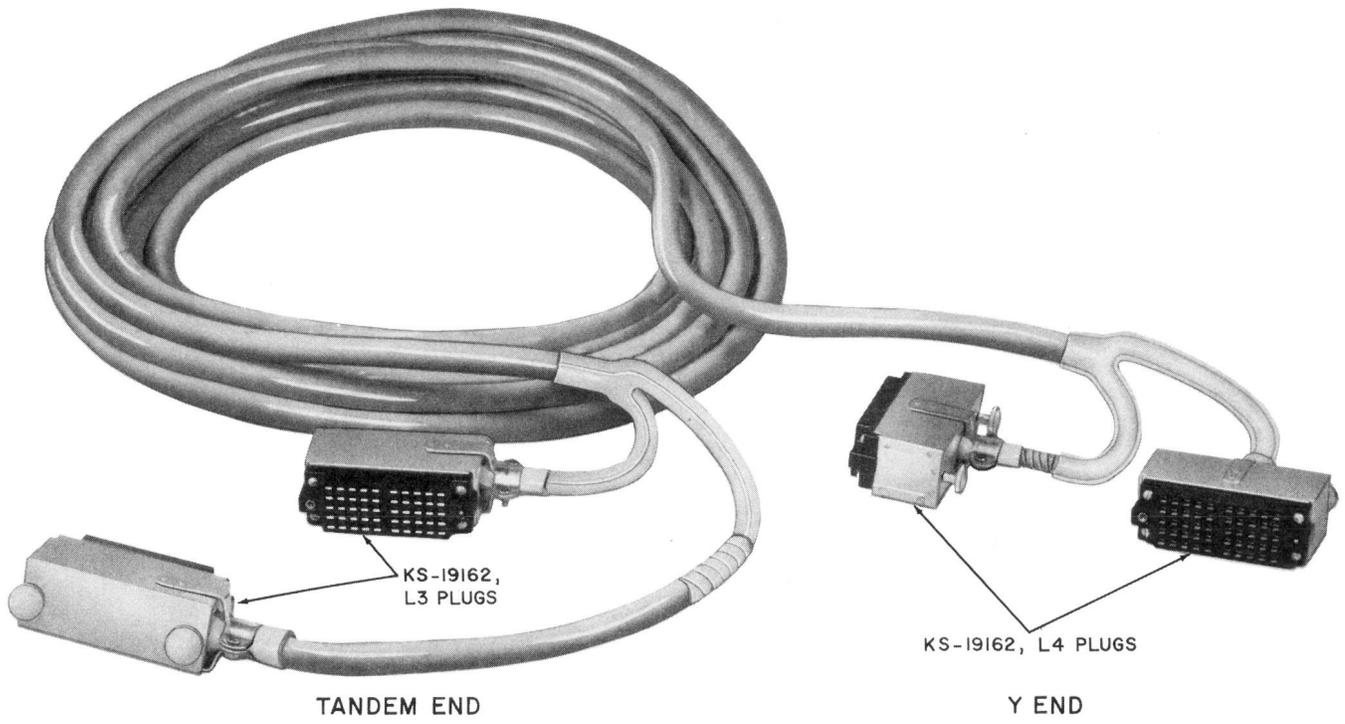

Fig. 5—P100A Cord
3.08 The P100A and P100B cords are illustrated in Fig. 5 and 6. The cords are not supplied with the test connectors but must be ordered separately.